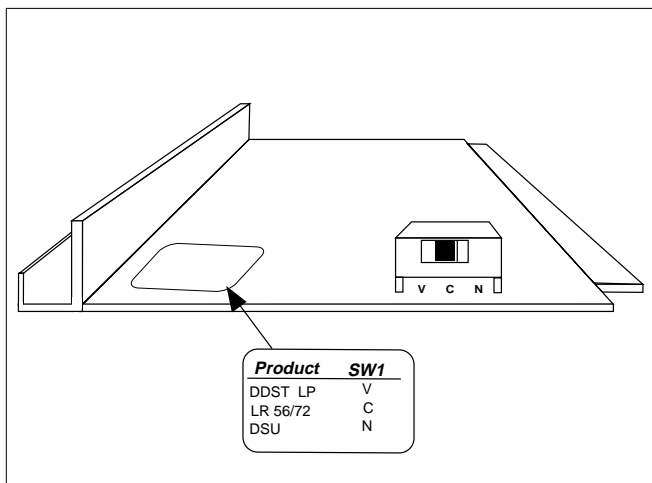

Figure 2. Option Switch
2.2 The power selection option must be set before installation. A label on the unit indicates the proper power mode depending on the type of unit to be powered, as illustrated in **Figure 2**.